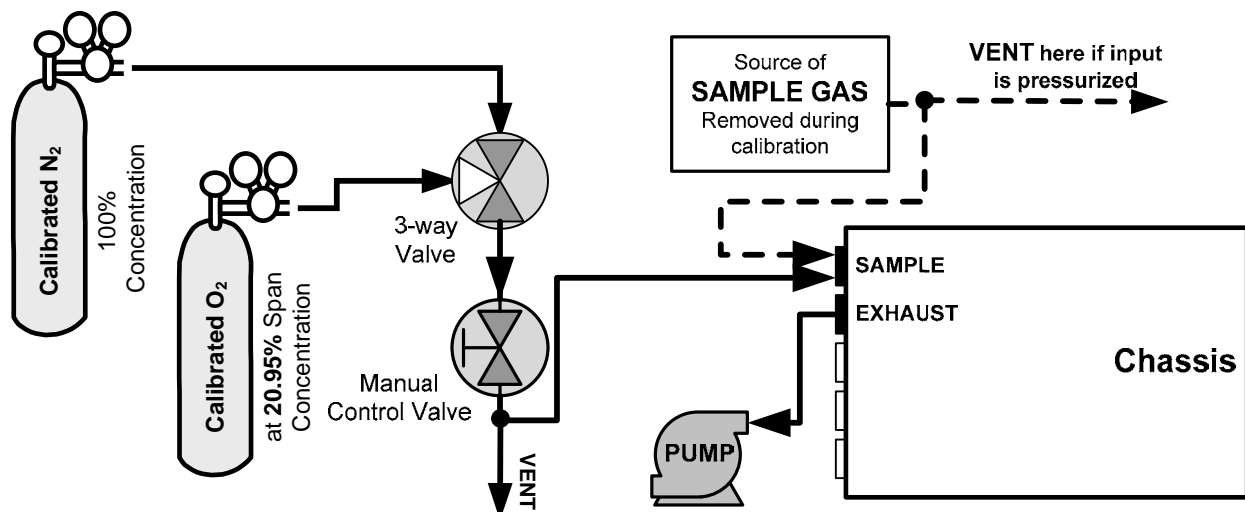

Figure 3-11: Pneumatic Connections—Basic Configuration—Using Bottled Span Gas
- In applications where the sample gas is received from a pressurized manifold, a vent must be placed on the sample gas before it enters the analyzer. Please refer to Figure 3-11.
The span gas, zero air supply and sample gas line **MUST** be vented (Figure 3-11) for two reasons: in order to ensure that the gases input do not exceed the maximum inlet pressure of the analyzer, and to prevent back diffusion and pressure effects. These vents should be: